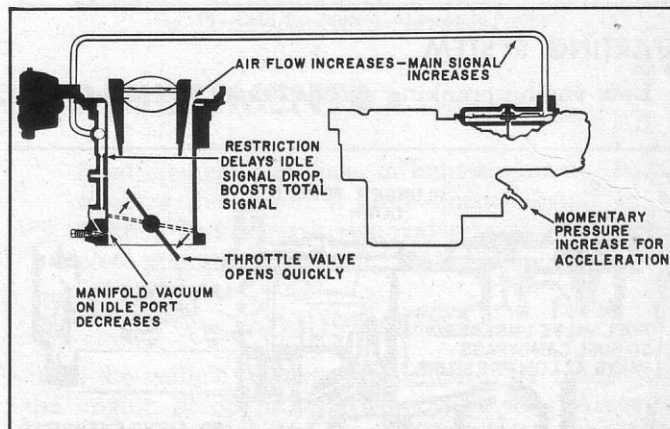

Fig. 13—Acceleration System
At normal driving speeds, acceleration is instantaneous. As the throttle is opened, three operations take place to provide the necessary added fuel during acceleration (fig. 13): (1) opening the throttle valve causes an increase in air flow which increases the venturi signal at the main diaphragm, (2) the momentary reduction of manifold vacuum causes the ratio lever to move to the power stop, (3) the calibrated restriction in the main control signal circuit retains any signal left prior to the acceleration demands, thus adding to the total signal before it bleeds thru the restriction.